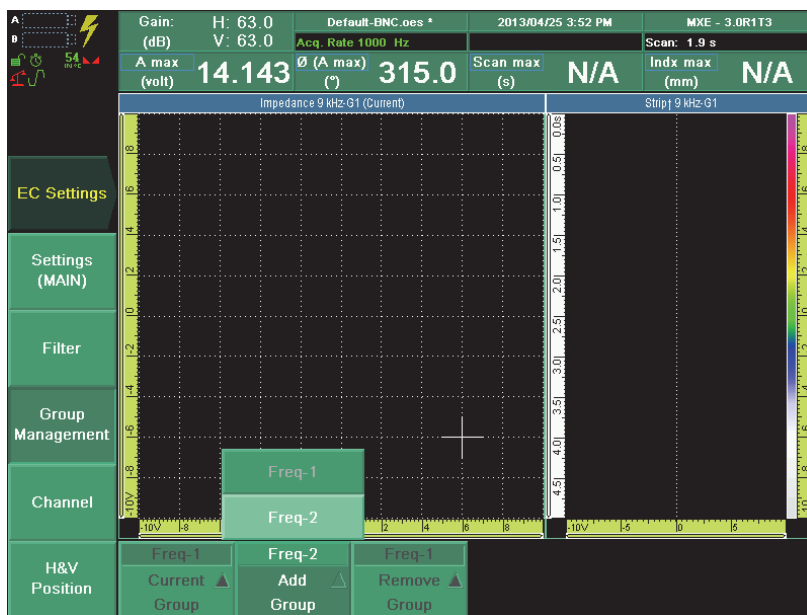

Figure 9-37 Setting the current group to frequency 2
1. Select **EC Settings > Group Management > Add Group = Freq-2**, and then press the Accept key to confirm (see Figure 9-37 on page 183).